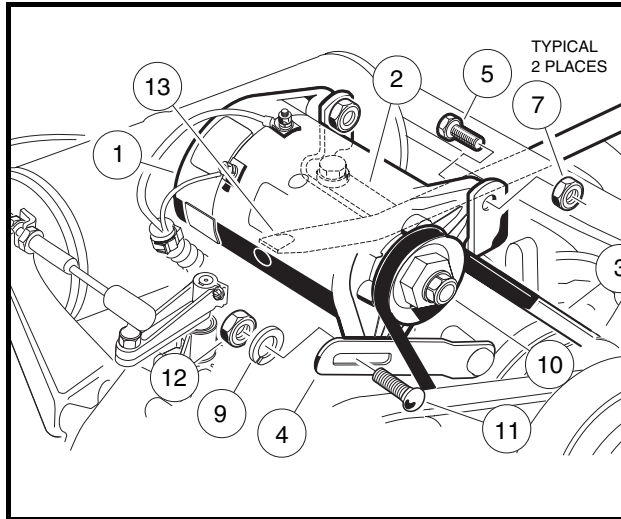
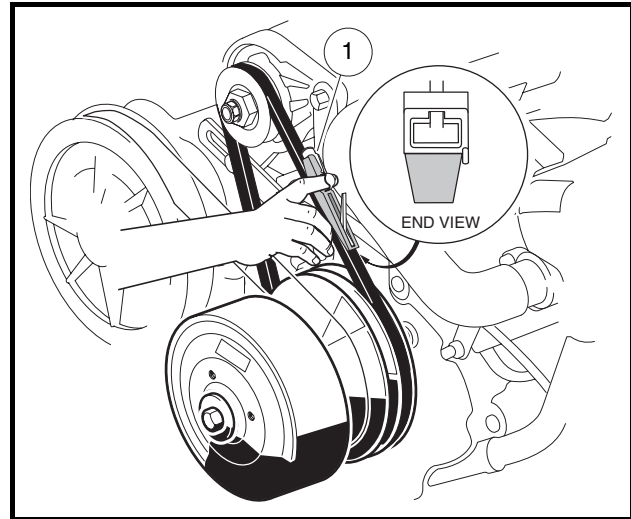

Figure 12-13 Starter/Generator Installation
Figure 12-14 Belt Tension Gauge
2. Install two 3/8-inch hex-head pivot bolts (5) into the mounting bracket with the heads of the bolts facing towards the driver side of the vehicle. Position the starter/generator in the mounting bracket so that the bolts will go through the starter/generator before going through the bracket. Install a locknut (7) onto each bolt and tighten to finger-tight (**Figure 12-13, Page 12-10**).
3. Install the adjustment bolt (11) through the adjusting bracket (4) and then through the starter/generator. Install a lockwasher (9) and 5/16-inch nut (12) onto the end of the adjustment bolt (11) and tighten to finger-tight (**Figure 12-13, Page 12-10**).
4. Install the belt (3), then tighten the mounting bolts. **See Belt Tension Adjustment on page 12-10.**
3. Make sure the two pivot bolts (5) on the mounting bracket, carriage bolt (11), and hex nut (12) are finger-tight (**Figure 12-13, Page 12-10**).
4. Push the starter/generator down to its lowest point of adjustment travel. With the starter/generator belt in place around the drive clutch pulley, install the starter/generator belt (3).
5. Place a pry bar (13) between the top of the starter/generator mounting bracket (2) and the underside of the starter/generator, passing the pry bar under the exhaust header.
6. Hold the pry bar and measure the belt tension using a Krikit[®] gauge (1) (available at NAPA[®] Auto Parts stores), or equivalent. Proper tension for a new starter/generator belt should be 75 ft-lb (101.7 N·m) or 45 ft-lb (61 N·m) for an existing belt (**Figure 12-14, Page 12-10**).
7. While maintaining the tension, tighten the adjustment nut (12) to 12 ft-lb (16 N·m). Tighten the two pivot bolts (5) and hex nuts (7) to 23 ft-lb (31.2 N·m) (**Figure 12-13, Page 12-10**). **See following CAUTION.**